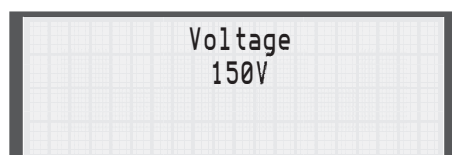

Fig. 5.11
3. Press the Volts key and use the Arrow keys to set the voltage you want to use (**Fig. 5.11**). If you are unsure of what voltage to use, set the voltage to 100V.